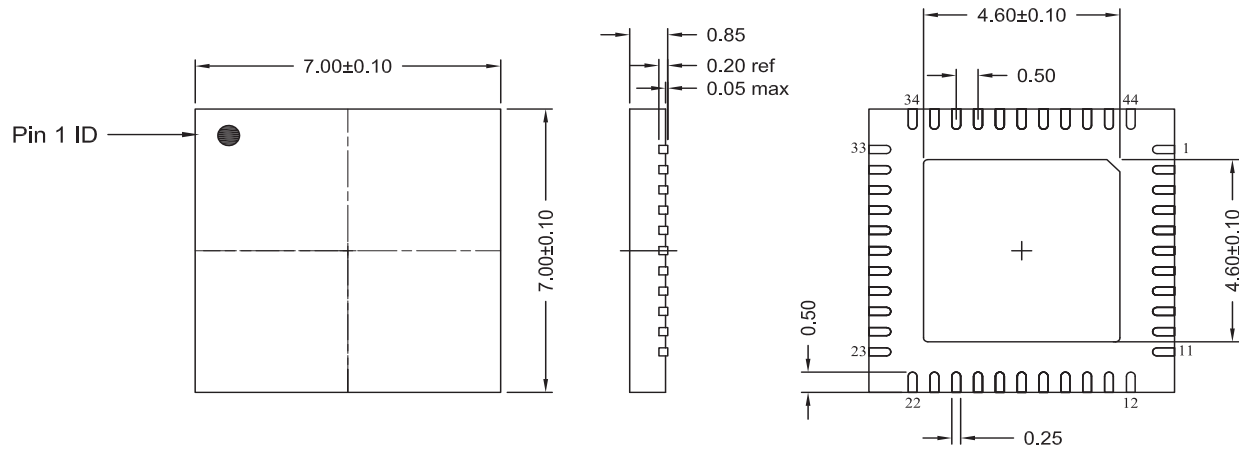

Figure 101. 44-Pin ELP Package Dimension
► **Note:** In Figure 101, dimensions shown are in millimeters.